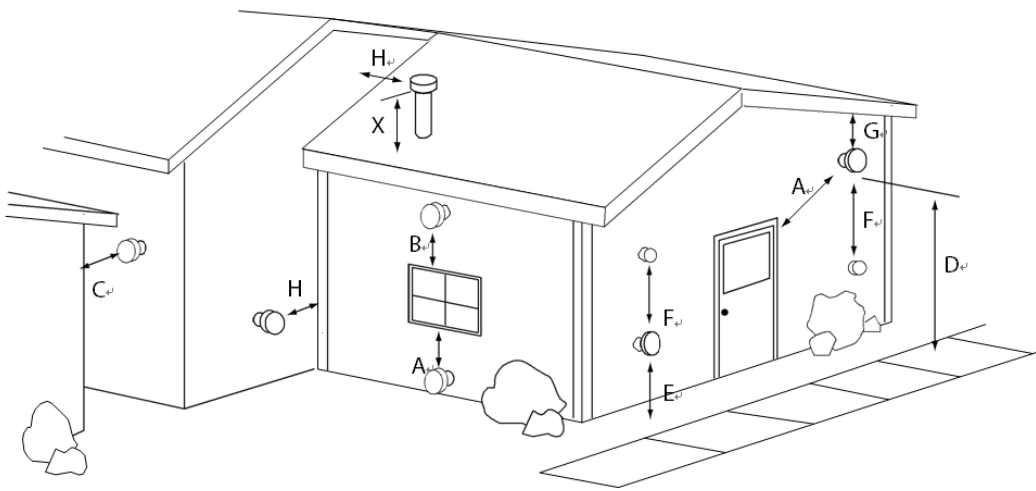

Figure 7: Vent Termination
- The stove vent must terminate on the outside of the building. Horizontal terminations must extend a minimum of 12" from the wall. Vertical terminations must protrude a minimum 24" from the roof surface. In addition, all clearances listed below must be met. **SEE FIGURE 7**